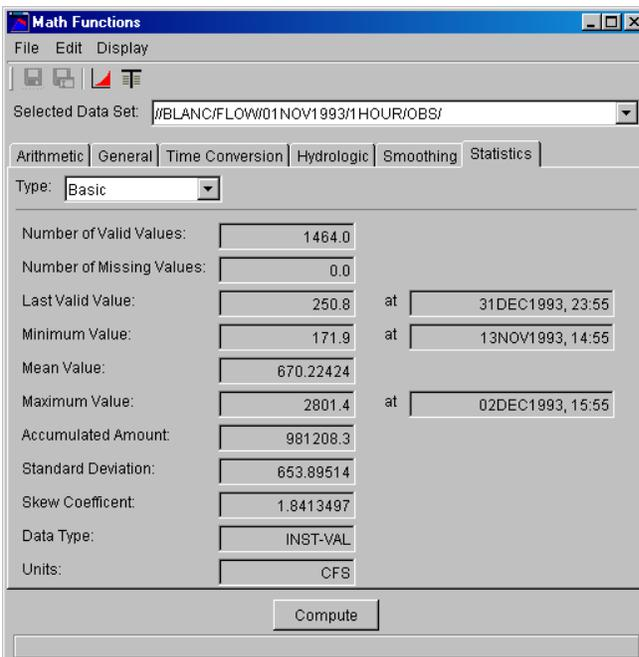

Figure E.12 HEC-DssVue Math Functions, Statistics Tab
3. As appropriate, select one of the six tabs (**Arithmetic**, **General**, **Time Conversion**, **Hydrologic**, **Smoothing**, and **Statistics**). You will most likely find that the information available from the **Statistics** tab is very useful when analyzing data and results. An example of the Statistics screen is shown in Figure E.12.